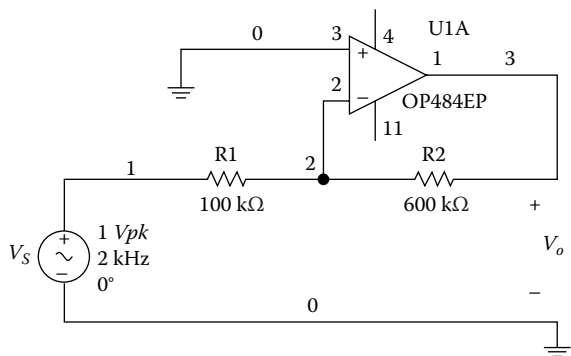

FIGURE P5.1
Problem 5.1 For the circuit shown in Figure P5.1, (1) build the circuit and use the Analog Discovery board to find the gain. (2) Compare the gain obtained in part (1) to the gain calculated using Equation 5.1.